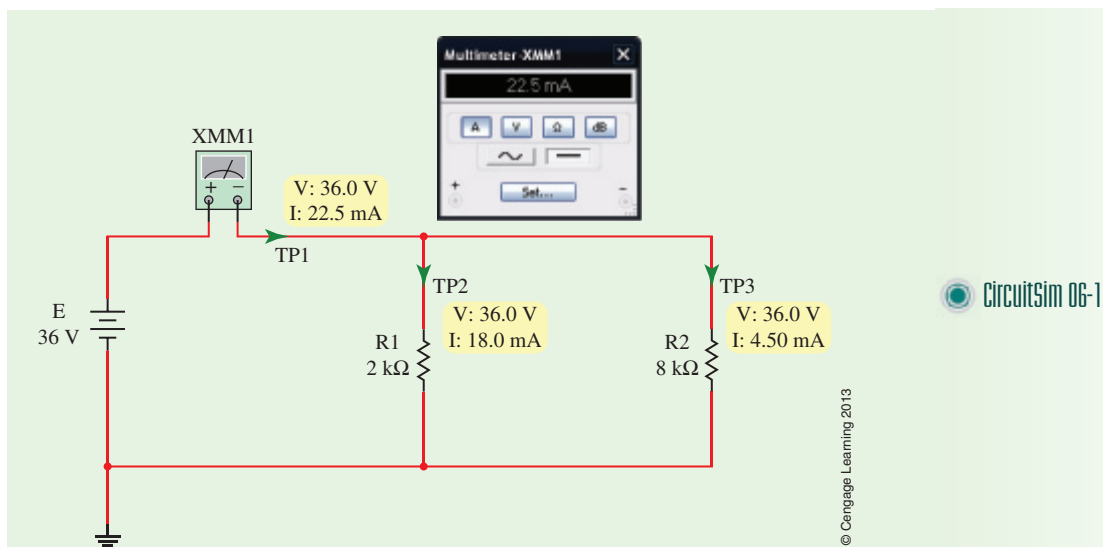

FIGURE 6-39
- Simulate the circuit by clicking on the power switch. You should see results similar to those shown in Figure 6-39.